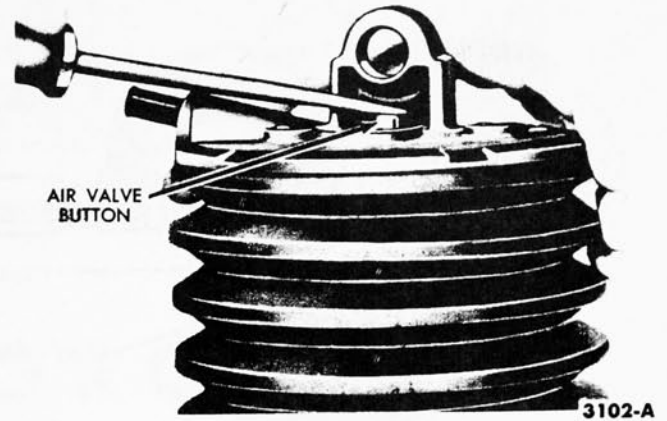

FIG. 12—Air Valve and Vacuum Valve Assembly Check
7. Test air valve operation (Fig. 12). As the air valve is pushed inward, two definite stages should be felt. At the beginning of air valve travel, only